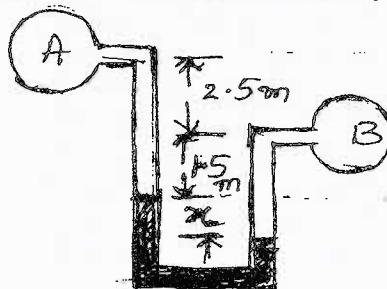

Fig.Q2(c)
- c. Fig.Q2(c) shows a differential manometer connecting two points A and B. Pipe A contains carbon tetrachloride of specific gravity 1.594 under a pressure of 1.05 kgf/cm^2 and pipe B contains oil of specific gravity 0.8 under a pressure of 1.75 kgf/cm^2 . If the manometer liquid is mercury, find the difference 'x' between the mercury levels.